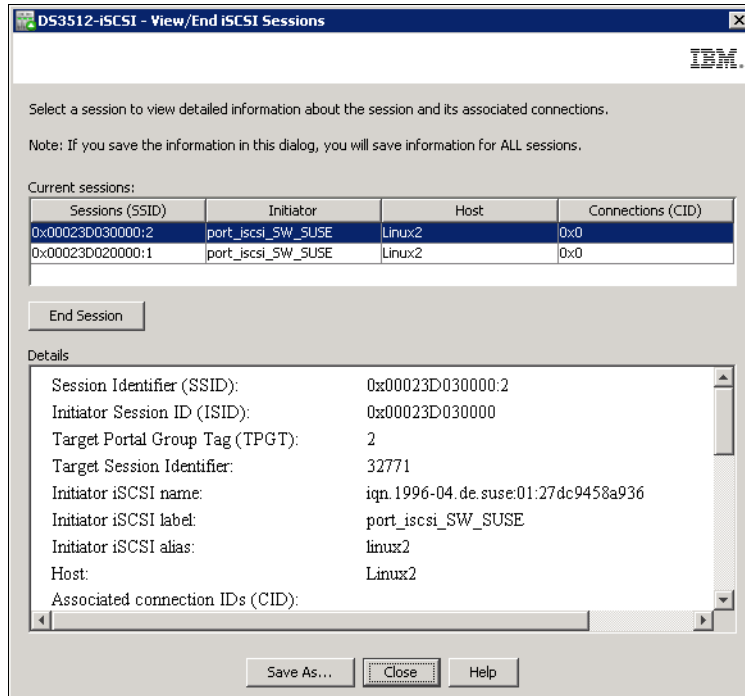

Figure 13-13 View/End iSCSI Sessions
1. Select **Storage Subsystem** → **iSCSI** → **End iSCSI Sessions** in Subsystem Management pull-down menu, and a window as in Figure 13-13 on page 322 appears. In the top pane you can see all the current sessions.
Example 13-1 on page 323 shows the complete session information for the selected initiator in Figure 13-13. This output can help verify that the host setup was done correctly.